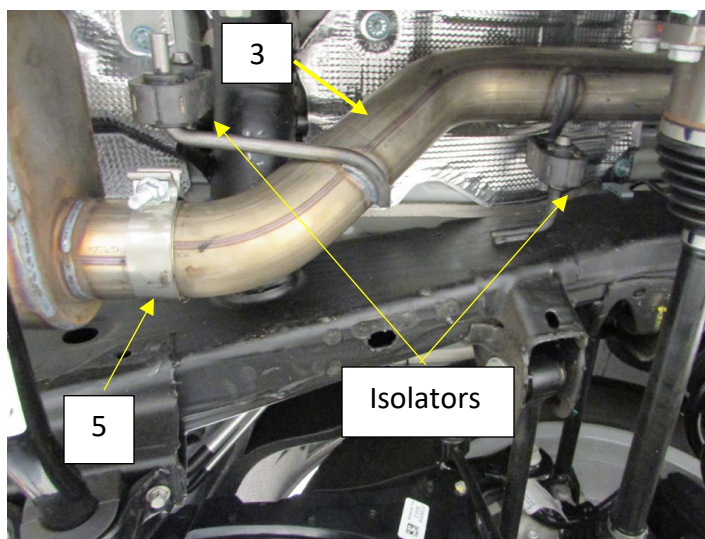

Figure.6
10. Install the Over axle pipe into the muffler and hanger rods into the isolators. Tighten the clamp to allow for adjustment. **Fig.6**